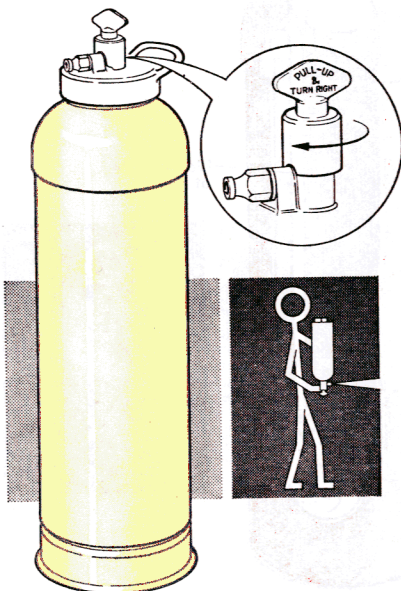

Fig 3. 2 gallon foam extinguisher
11. **Chemical foam.** The 2 gallon foam extinguisher is primarily intended for use on burning liquids but may be effectively used against solid material fires. The cylindrical body of the extinguisher contains an alkaline charge of bicarbonate of soda and a foaming compound (Fig 3). Inside the cylinder an inner container holds an acid charge of aluminium sulphate and water. A sealing mechanism in the headpiece of the extinguisher prevents the two solutions mixing when the cylinder is upright.